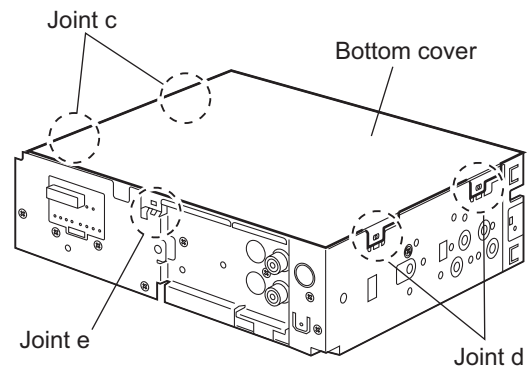

Fig.5
2.1.4 Removing the bottom cover (See Figs.5 and 6)
Do not damage the board when releasing the joint **e** using a screwdriver. (See Figs.5 and 6)